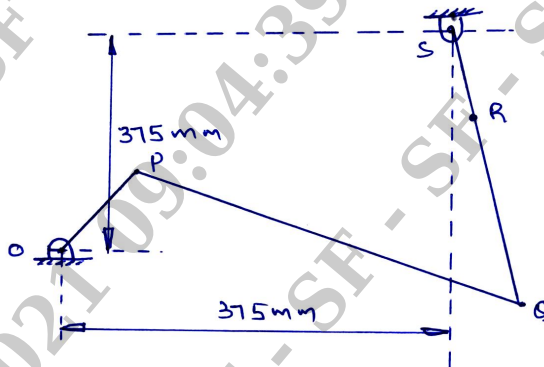

Fig. Q3
- 3 Fig. Q3, shows a mechanism in which dimensions of various links are as follows :